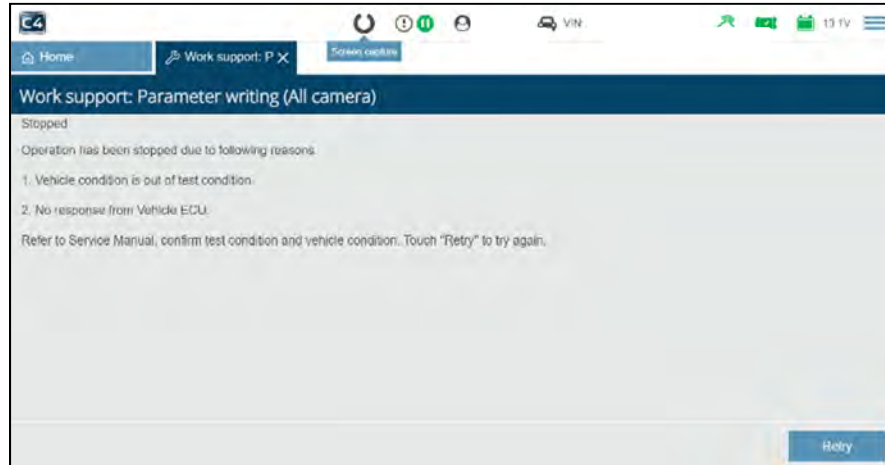

Figure 14
- If the **Parameter writing** was not successful (Figure 14), continue to step 13 before selecting **Retry**.
- f. Select **Retry** (Figure 14).